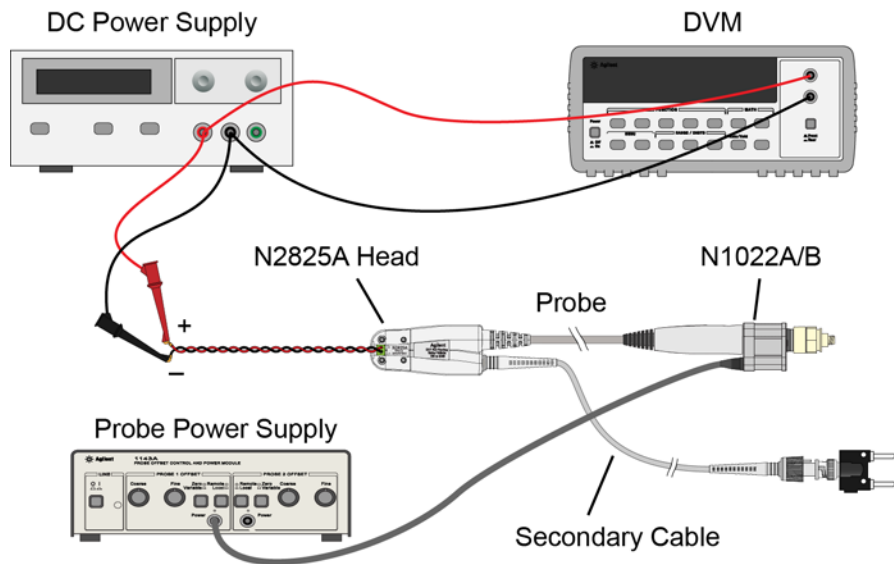

Figure 50 Test Setup for Measuring  $V_{in}$
- 1 Snap an N2825A head onto the N2820/1A probe and connect the test equipment as shown in Figure 50. Be sure to connect the positive side of the DC supply to the red lead on the N2825A head.
- 8 Connect the multimeter on the DC power supply as shown in Figure 50 on page 97.